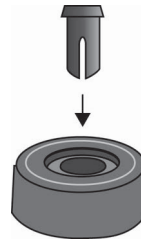

Figure 81. Inserting the Rivet Housing into the Bumper Foot
2. Inset a rivet housing into a bumper foot. Refer to Figure 81.